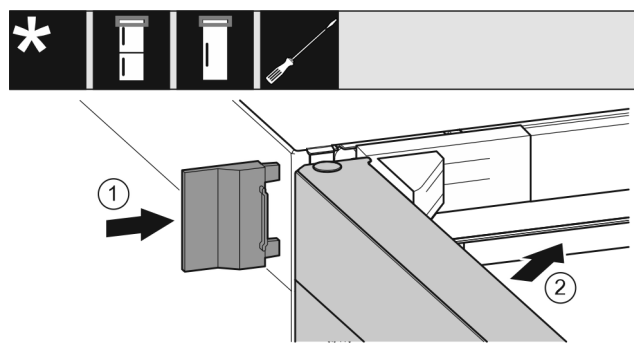

Fig. 22
- ▶ Slide on the outer cover. Fig. 22 (1)
- ▶ Close the upper door. Fig. 22 (2)